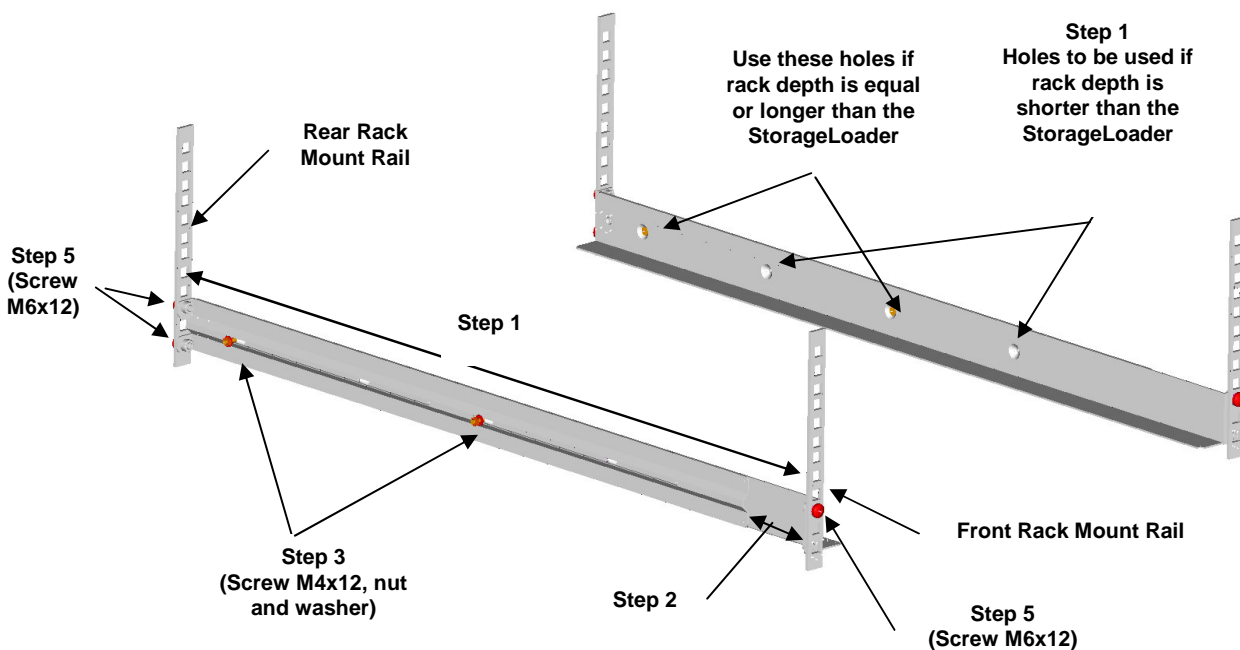

Figure 3.3. Mounting the Rack mounting kit to a rack.
1. Measure the length between the rear rack mount rails and the front rack mount rails. If the measurement is shorter than the StorageLoader, move the two sets of screws M4x12, washers and nuts shown in Figure 3.3.